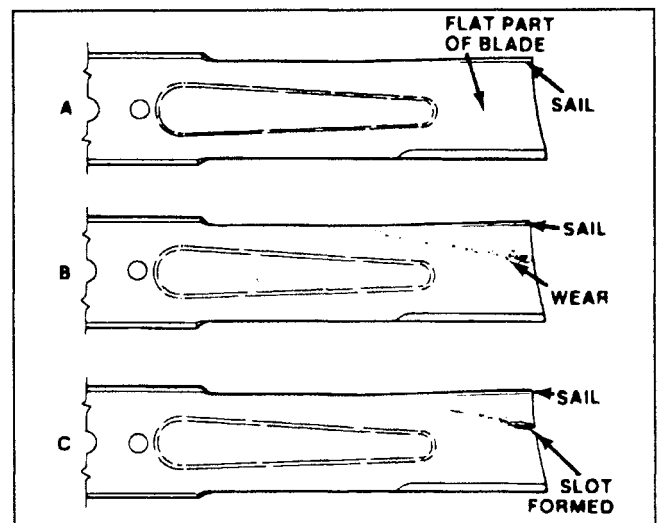

Figure 14
1. Examine cutting ends of the blade carefully, especially where the flat and curved parts of the blade meet (Fig. 14-A). Since sand and abrasive material can wear away the metal that connects the flat and curved parts of the blade, check the blade before using the mower. If wear is noticed (Fig. 14-B), replace the blade.
If blade is allowed to wear, a slot will form between the sail and flat part of the blade (Fig. 14-C). Eventually a piece of the blade may break off and be thrown from under the housing, possibly resulting in serious injury to yourself or bystander.